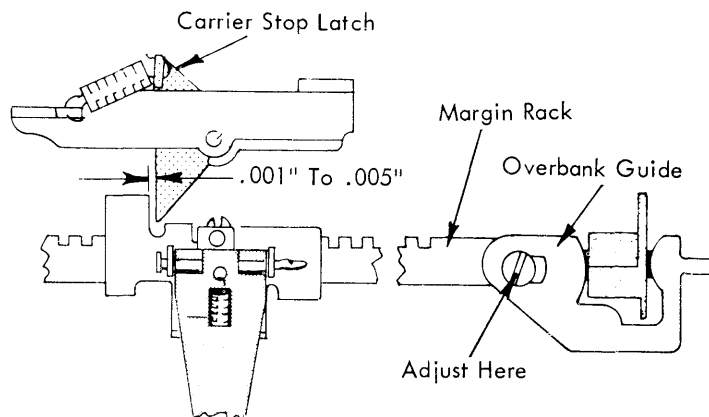

FIGURE 148. Margin Rack Overbank Guide Adjustment
- Overbank Adjustment - With the carrier resting at the left margin stop, adjust the margin rack overbank guide (Fig. 148) left or right on the margin rack to obtain a clearance of .001" to .005" between the stop latch on the carrier and the left hand margin stop. The floating action of the stop latch must be removed, by pulling the latch to the right with a spring hook, before this clearance can be observed.